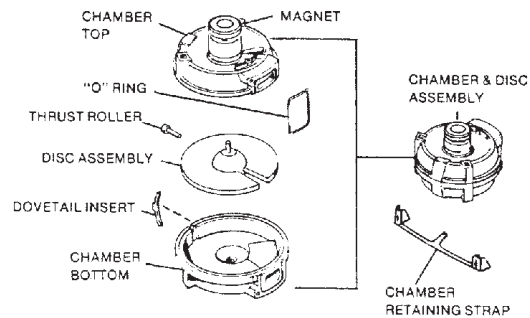

Figure 9: Chamber and disc assembly
5. Inspect the chamber and parts (see Figure 9) for visible signs of wear. The thrust roller and dovetail insert should be replaced if worn. Replace the chamber if wear is evident on disc spindle where it contacts the crossbar magnet drive or the balls or if the disc plate is worn by foreign material. If water deposits are found, remove any mineral deposits from the disc and chamber interior surfaces. Before replacing the chamber in the meter head, make certain that the area surrounding the magnet in the meter head is clean.